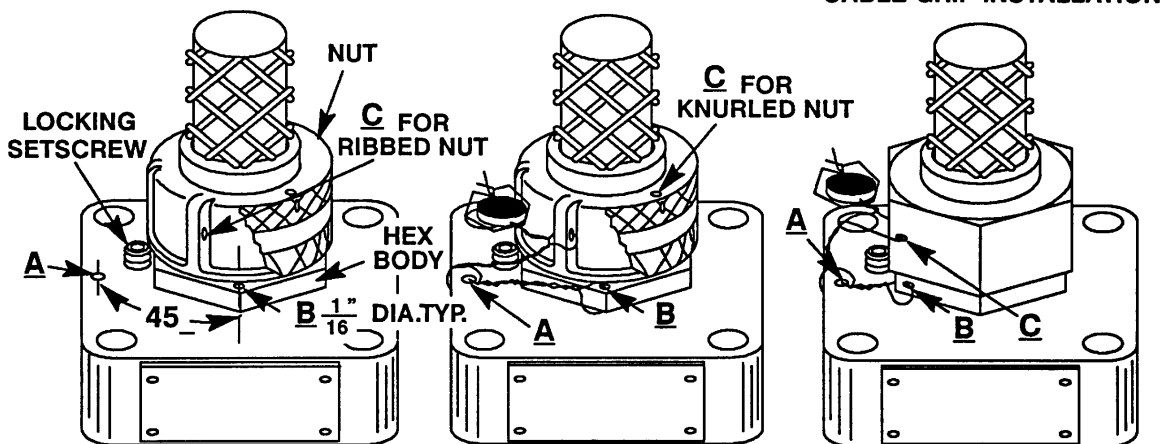

Figure 9. Safety Seal Installation
**Make sure** the cable grip body is tight in the terminal housing, and secure it to the terminal housing as follows (see Figure 9).
- a. There are two tapped holes in the terminal housing located 90° apart. One hole will be used for installing the long locking setscrew (13); the other will be plugged with the short setscrew (29). Apply 'Loctite Pipe Sealant With Teflon No. 592' to **both** setscrews before installation.
**Make sure** the cable grip body is tight in the terminal housing. Note the location of the tapped hole which is blocked by the hex body. Unscrew the hex body until the hole is clear, and install the small setscrew (29).